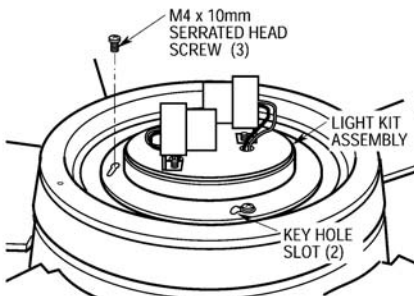

Figure 9
- 11. Position the light kit assembly onto the lower housing, aligning each of the three holes. Attach the light kit assembly to the lower housing, using three M4 x 10mm serrated head screws. Rotate the light kit assembly to securely tighten by engaging the screws in the two key hole slots (Figure 9).